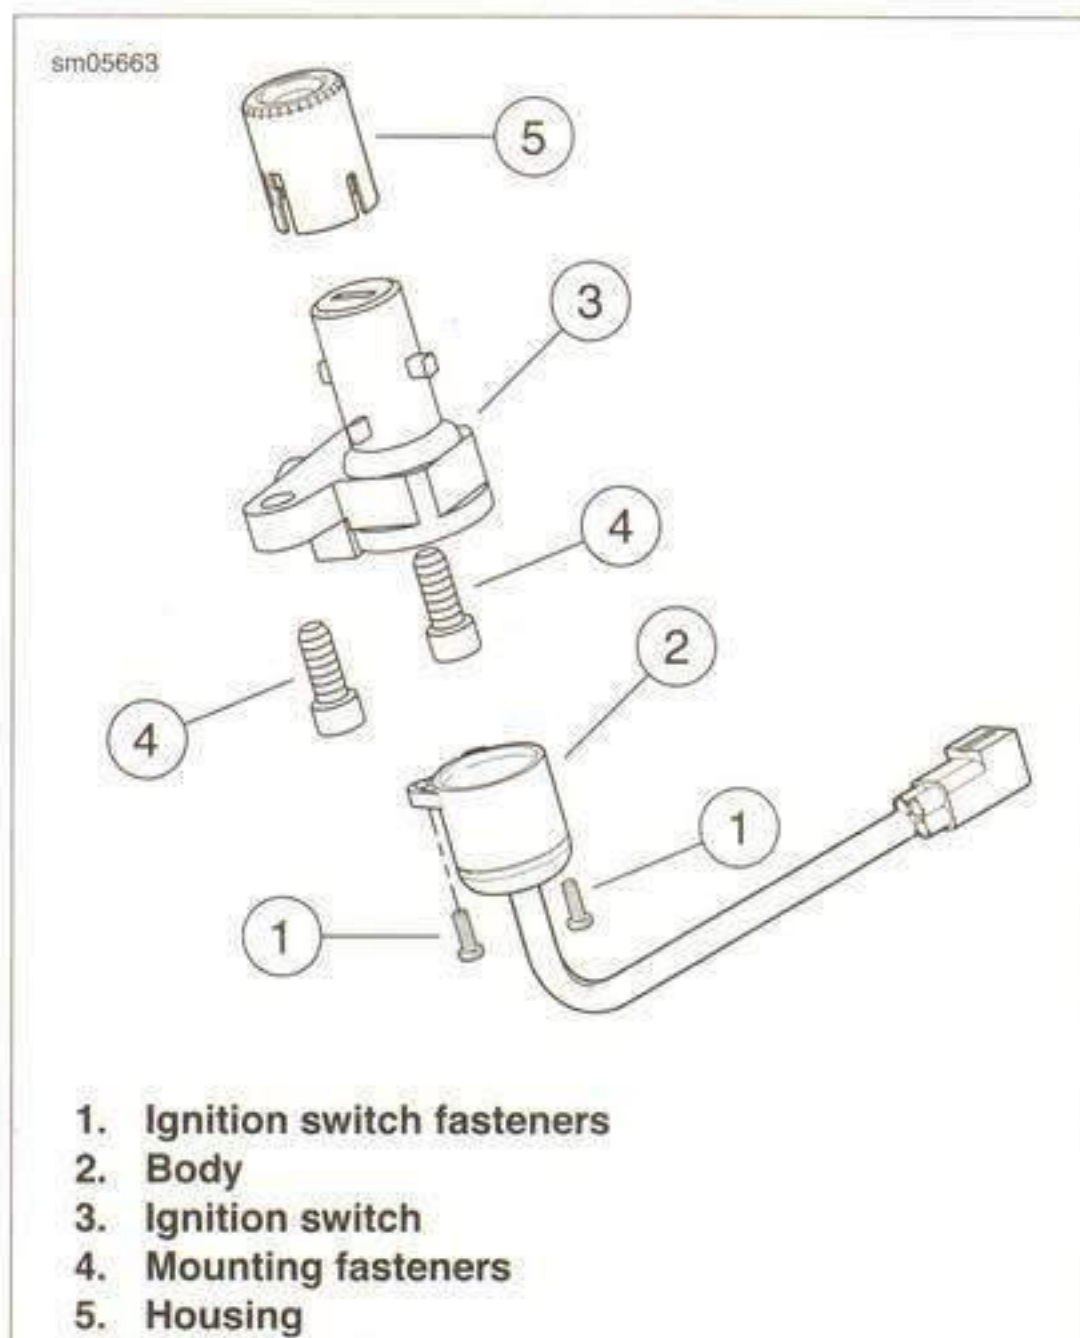

Figure 7-5. Ignition Switch Assembly
1. See Figure 7-5. Match the slots in the housing (5) to the bosses on the switch (3) and push the housing onto the ignition switch.
2. Join the ignition switch to the ignition switch body (2).
3. Install fasteners (1) and tighten to 1.4-4.1 Nm (13-36 in-lbs).